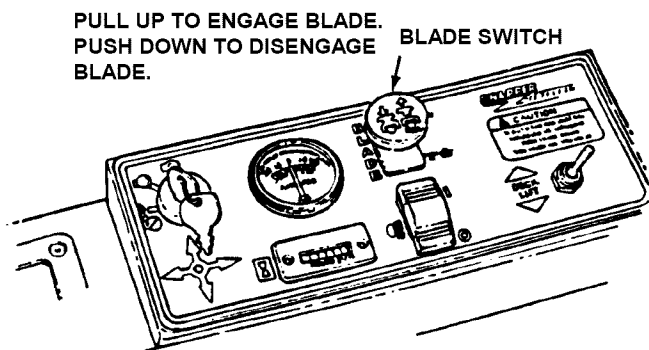

FIGURE 2.2
2.1.4. Check Blade switch to insure it works freely. Switch is pulled "UP" for blade engagement or pushed back "IN" for blade disengagement. See Figure 2.2. **IMPORTANT:** Disengagement stops blades.
3. Push blade switch in to "OFF", blades disengaged position and engage parking brake. See Figure 2.2.
1. Push the blade switch in to "OFF" position to disengage or stop the mower blades. See Figure 2.2.